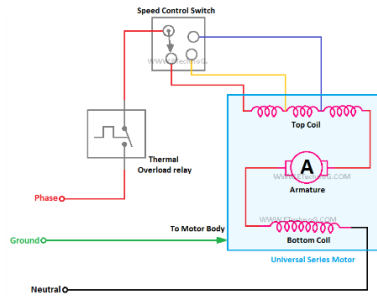

Figure 11.2. Mixer grinder circuit diagram
1. Perform the maintenance for mixer grinder from a circuit board as shown in Figure 11.2.